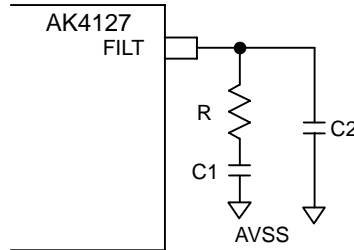

Figure 18. PLL Loop Filter
- When IMCLK is 256fs, 384fs, 512fs or 768fs, any external parts shown in Figure 18 are not required.